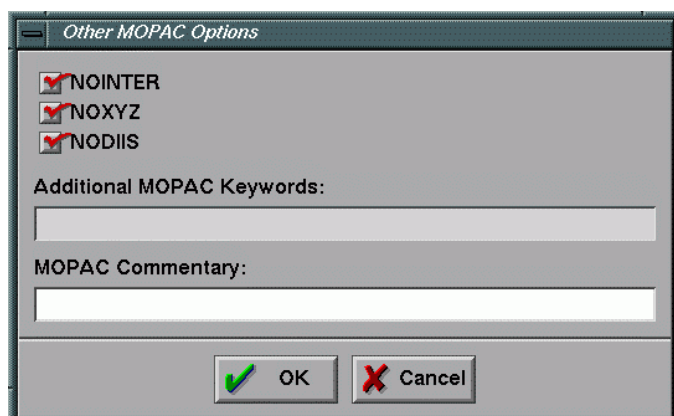

Fig 14.11 Window for additional information
- 8) Input additional information consisting commentary or additional keywords for MOPAC (**Fig 14.11**).